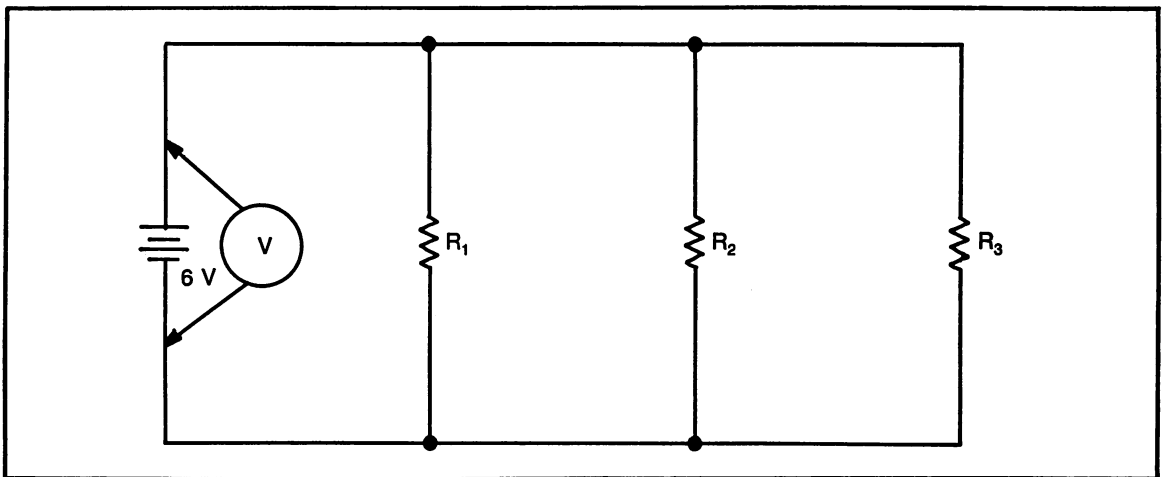

Fig. 9-36. Voltmeter connected to measure supply voltage.
(2) Remove the ohmmeter and connect a dc power supply, as shown in Fig. 9-36. Connect a voltmeter across the power supply (with the circuit also connected) and set the power supply for 6 volts. Move the voltmeter to measure the voltage across each of the resistors.